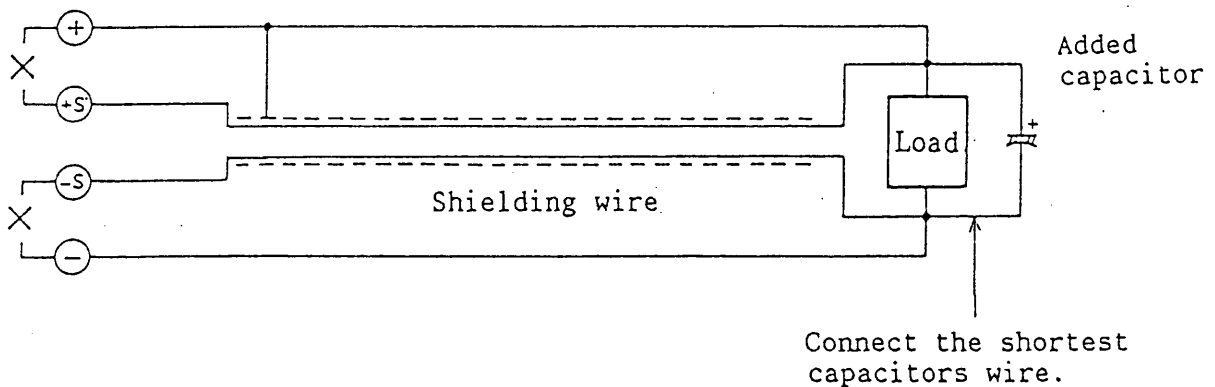

Figure 4-1
2. If the load connection cable is longer than 3 - 5 meters, phase shift caused by inductance and capacitance of the cable wires becomes noticeable and the circuit may oscillate. In such a case, connect an electrolytic capacitor of several hundred microfarads in parallel with the load as shown in Figure 4-1.